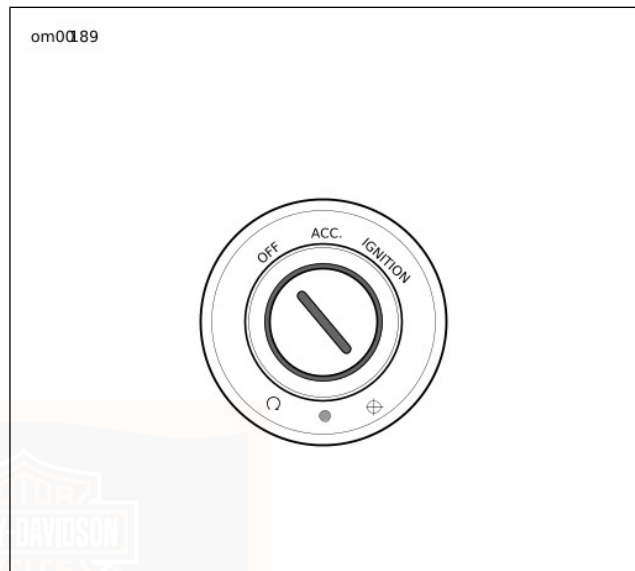

Figure 15. Ignition/Headlamp Key Switch: Sportster Models
See Figure 15. The ignition/headlamp key switch controls electrical functions of the motorcycle.
2. See Figure 15. Turn ignition/headlamp key switch to ON and push the START switch to operate starter motor.
2. See Figure 15. Turn the ignition key to the OFF position to turn the ignition power completely OFF.